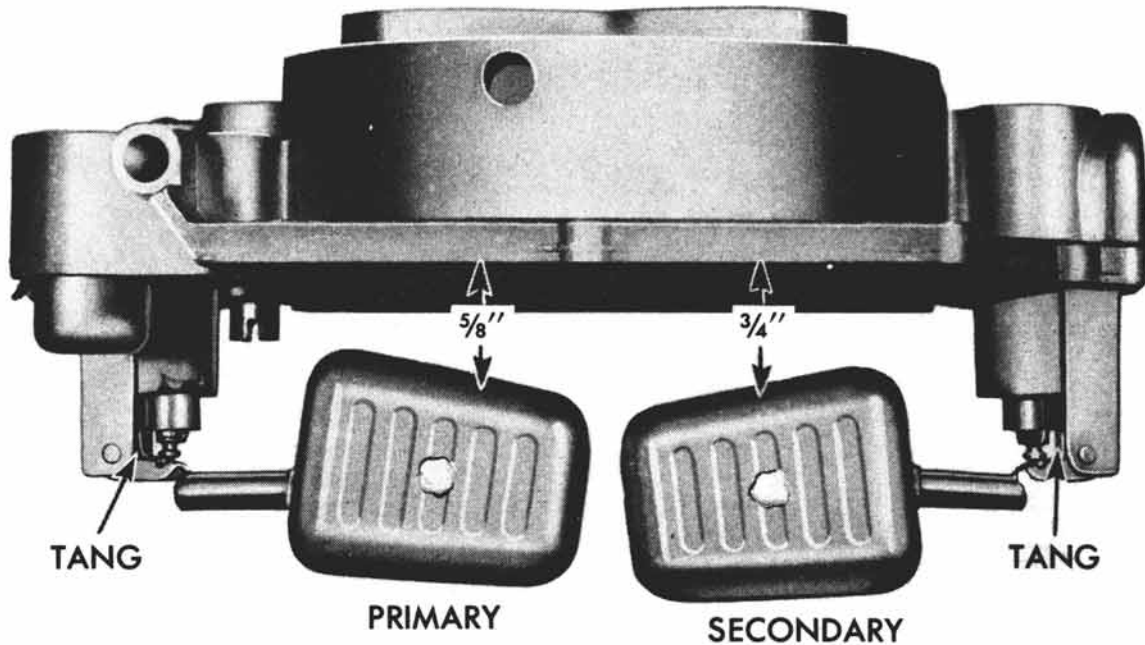

Fig. 14-C Float Drop Adjustment
2. Float drop adjustment (Fig. 14-C). With bowl cover held in upright position and measuring from the center of the floats, the distance between the top of the floats and the bottom of the bowl cover should be $5/8$ -inch for primary floats and $3/4$ -inch for secondary floats (Fig. 14-C). Bend float tangs as required to achieve these distances.